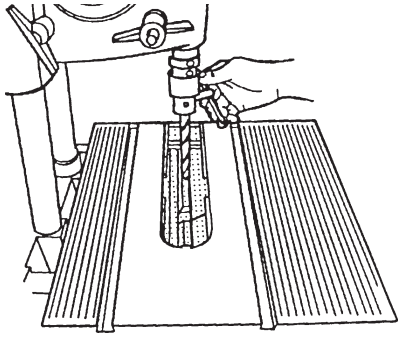

Figure 18
- Install a 1/2" Straight Drill Bit in the Drill Chuck and use the Chuck Key to lock it in place. See Figure 18.